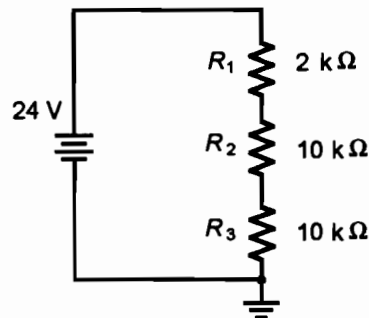

Figure 1.5
1. Solve for the voltage drops of the voltage divider shown in Figure 1.5.
2. If  $R_2$  of Figure 1.5 was removed and replaced with an  $8\text{ k}\Omega$  resistor, what would be the new value of current flow? What effect, if any, does this have on  $V_{R1}$  and  $V_{R3}$ ?